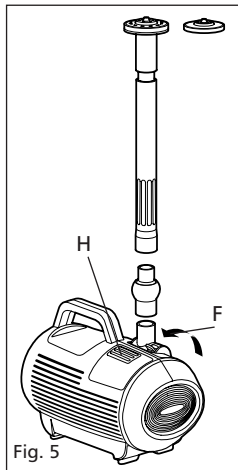

Fig. 5
The flow from the pump can be regulated to meet your needs by rotating the flow controller wheel (F) near the outlet of the pump. See Fig 5.
- Holding the pump in one hand, press the release button (H) on the top of the pump and open Strainer Cage. See Fig 5.